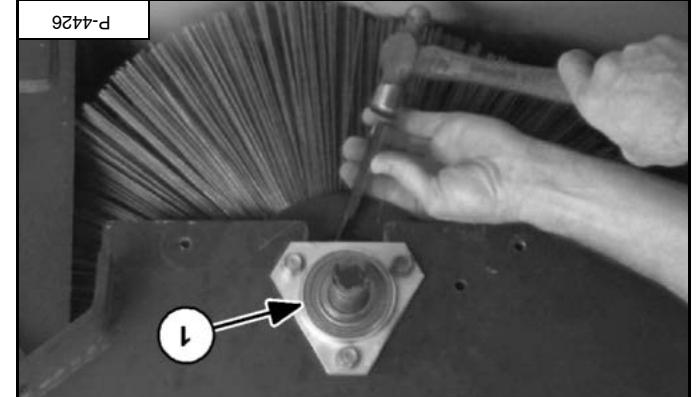

Figure 119
Use a punch and hammer, tap on the hole of the locking collar to tighten the collar [Figure 119].
bearings, if needed to install the bearing mounting flange (item 1) [Figure 119].